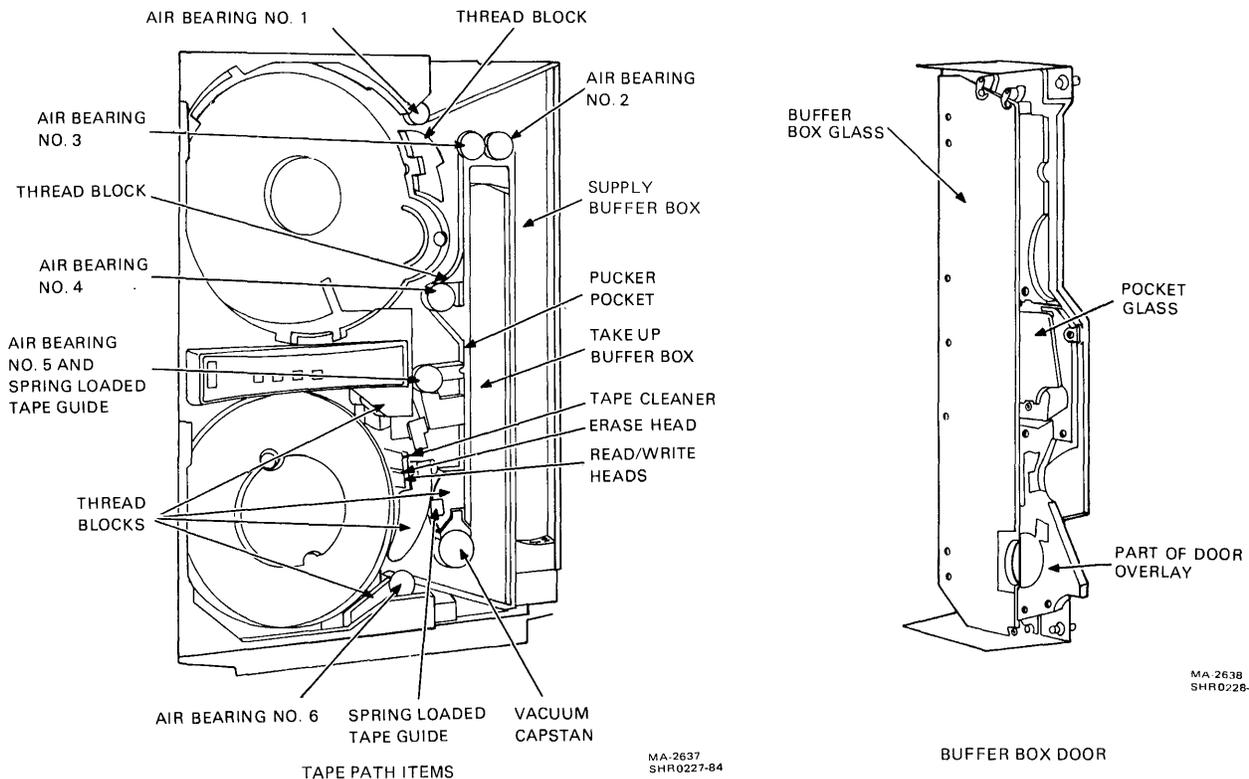

Figure 3-14 Transport Items for Cleaning
3. With the swab soaked in cleaning fluid, clean the following components of the transport tape path (Figure 3-14).
6. Clean the following components of the transport with a lint-free wipe and cleaning fluid (Figure 3-14).
- Buffer boxes (2)